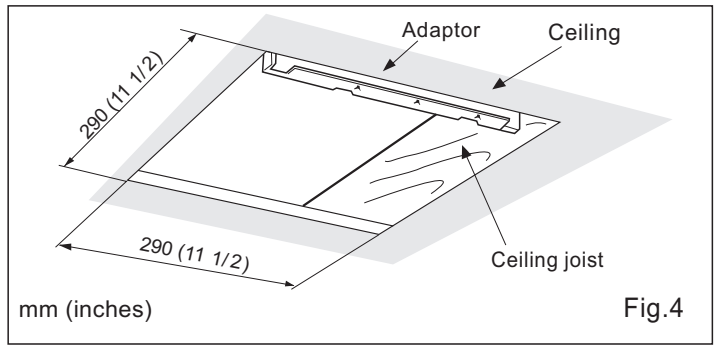

Fig. 4
6. Remove ceiling section. (Fig.4)
- (4) Before installation, provide inspection and maintenance access at a location that will not interfere with installation work shown in installation I.
- (5) First, remove ceiling section according to Fig.4 of page 6.
- (6) Install ventilating fan.
- (1) Inspect duct work and wiring before proceeding with installation.
- (2) Remove ceiling section according to Fig.4 of page 6.
- (3) Install ventilating fan.